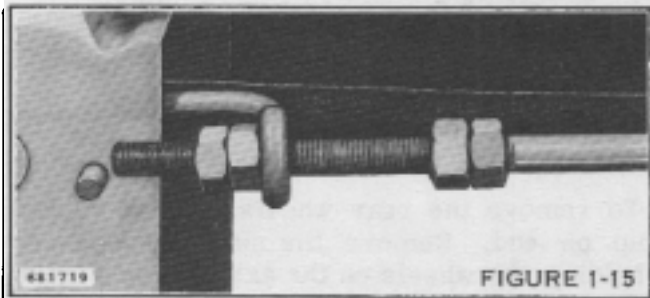

FIGURE 1-15
1. Place blade control lever in "off" position, and remove the two front nuts from blade control rod. See Figure 1-15.